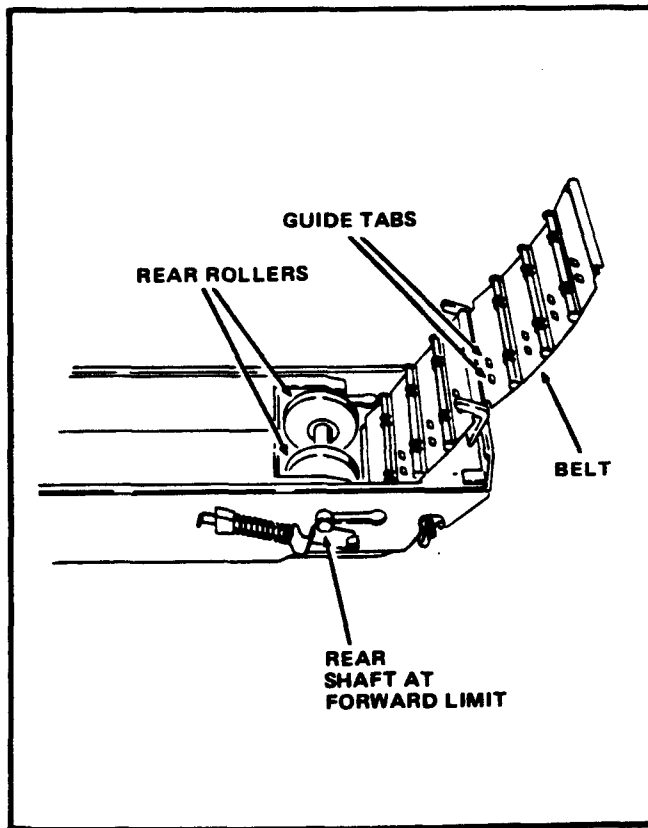

FIGURE 13
14. Lay the Module down and pull the Belt around the back of the Rear Rollers until about 15.2 cm (6 in.) of the Belt protrudes from the top of the Module. See Figure 13.
15. Move the Rear Shaft to its Forward limit. See Figure 13.
16. Align the Rear Rollers so that the Right Rear Roll Roller is positioned between the Guide Tabs on the Belt. See Figure 13.